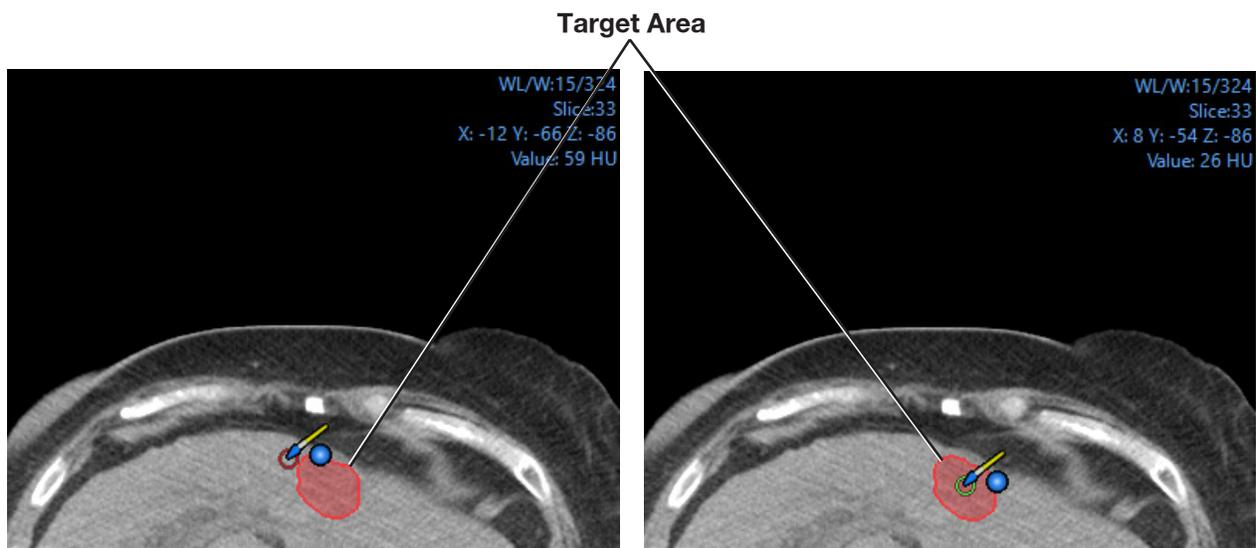

Figure 3-17: Using the Edit Tool to decrease (left panel) or increase (right panel) the size of the target area.
12. To expand portions of the target, place the mouse pointer just inside the target's area; a green circle appears. Click and hold the mouse, using the pointer to guide the circle. Slowly drag the green circle along the target's border (Figure 3-17).